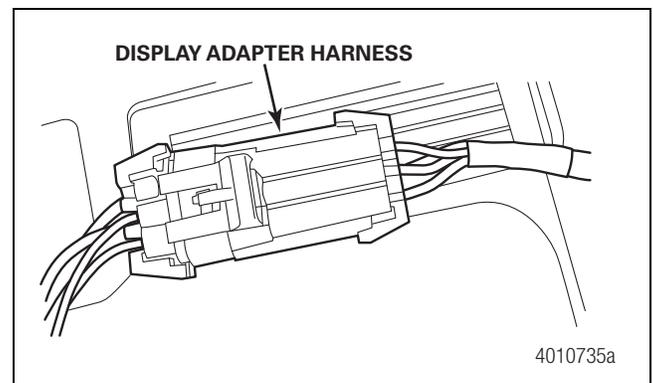

Figure 9
1. Connect the OEM display connector to the display adapter harness by pushing on the connector end until it snaps into the connector. Figure 9.